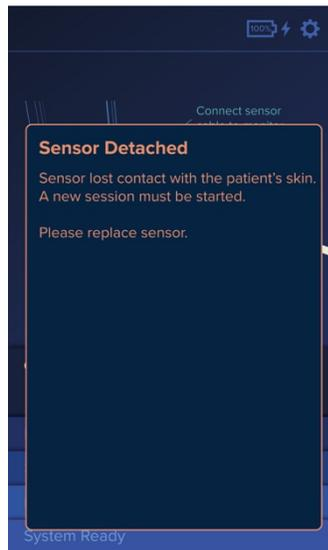

Figure 27. Detached sensor PRIOR to injection
If the sensor becomes detached **prior to the Lumitrace injection**, the 'Sensor Detached' screen will appear as shown in Figure 27.
NOTE: If the sensor is detected as previously in use, a patient ID confirmation dialog will display (see Figure 27) asking the user to confirm that the ID from the sensor matches with the ID of the patient. If this ID does not match with the patient, the user must replace the sensor. If it does match the same patient, refer to the section on Returning to an Existing Session.
- Once the sensor is reconnected to the monitor, the screen will advance to confirm the patient identity. (See Figure 27) Press "YES" to advance to the 'Existing Session Found' screen.